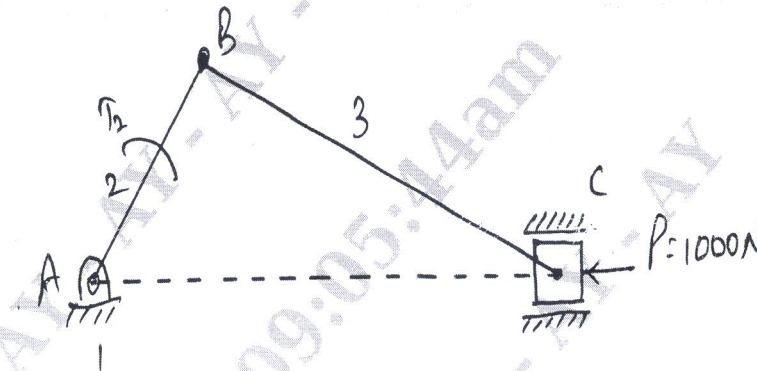

Fig. Q5
- 5 A slider crank mechanism is shown in Fig. Q5. The force applied to the piston is 1000 N. when the crank is at  $60^\circ$  from IDC. Calculate the driving torque  $T_2$ . (20 Marks)